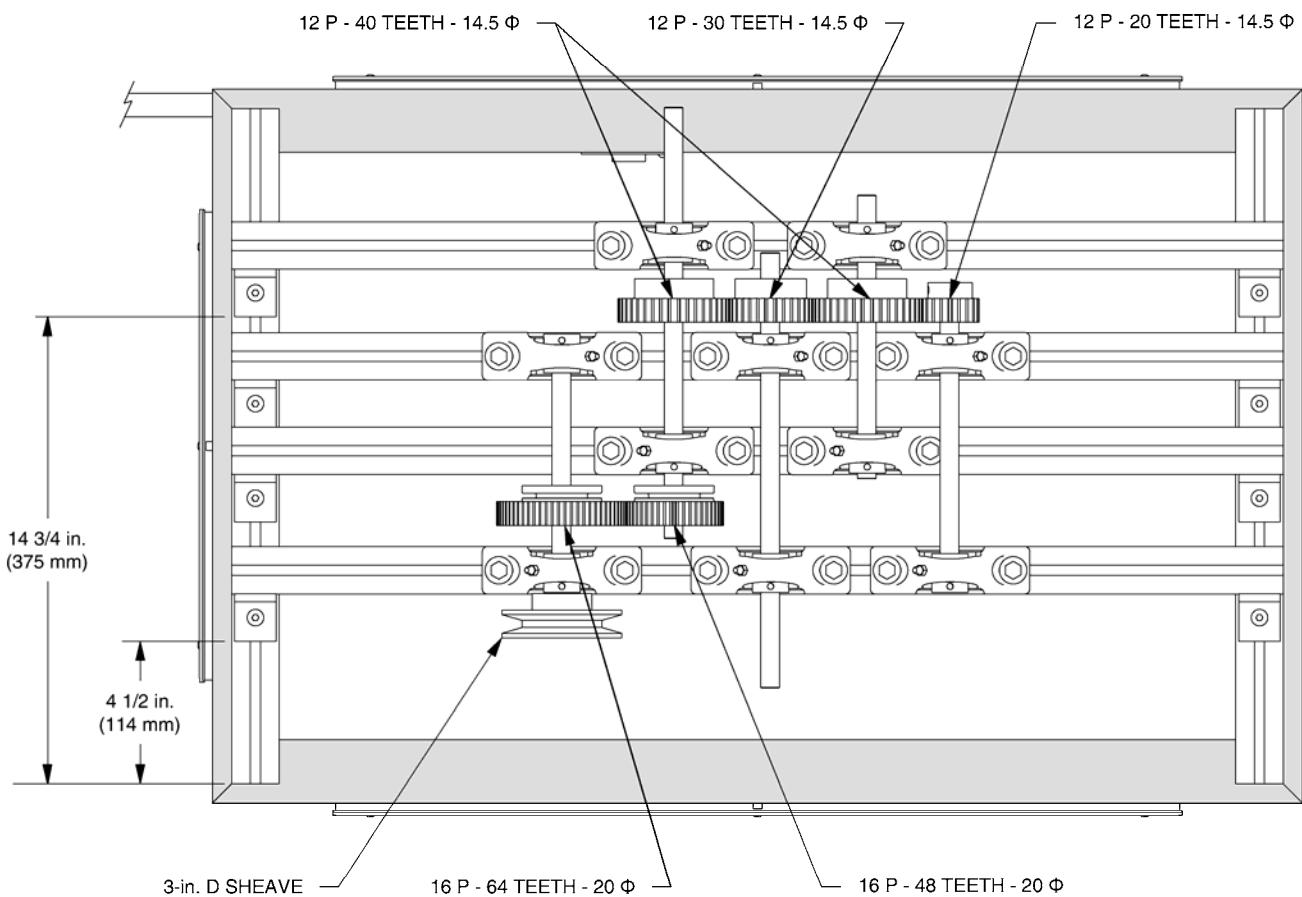

Figure 7-3. Universal base setup.
- 6. Fix four T-slotted extrusions to the universal base as shown in Figure 7-3.
8. Install the gears, shafts, and sheave as shown in Figure 7-3.